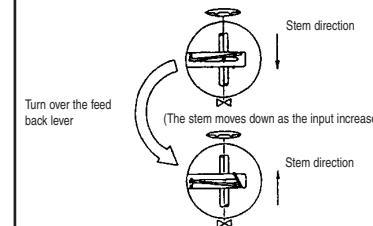

Fig.5 Use position for feedback lever
- To move the valve stem downward at the time of input current increase (normal actuation), attach to the position at which the tightening spring comes to the upper side of the connecting metal, as shown in Fig.5. To move the valve stem upward (reverse actuation), turn-over the feedback lever and attach to the position at which the tightening spring comes to the lower side of connecting metal.